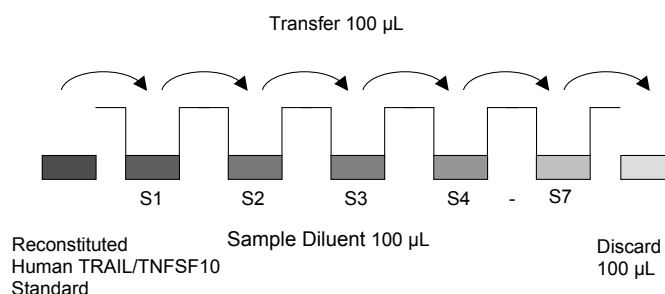

Fig. 7 Dilute standards - microwell plate.
3. Standard dilution on the microwell plate (alternatively the standard dilution can be prepared in tubes, see "External standard dilution" on page 3): Add 100 μ L of Sample Diluent in duplicate to all standard wells. Pipette 100 μ L of prepared standard (see "Human TRAIL/TNFSF10 standard" on page 3, concentration = 2,000.0 pg/mL) in duplicate into well A1 and A2 (see Table 1 on page 3). Mix the contents of wells A1 and A2 by repeated aspiration and ejection (concentration of standard 1, S1 = 1,000.0 pg/mL), and transfer 100 μ L to wells B1 and B2, respectively (see Figure 7). Take care not to scratch the inner surface of the microwells. Continue this procedure 5 times, creating two rows of human TRAIL/TNFSF10 standard dilutions ranging from 1,000.0 to 15.6 pg/mL. Discard 100 μ L of the contents from the last microwells (G1, G2) used.